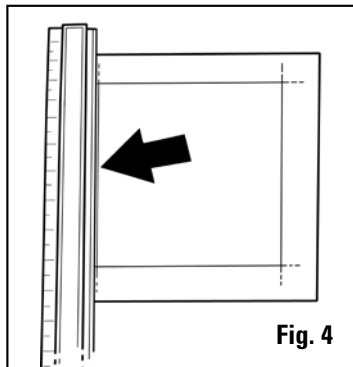
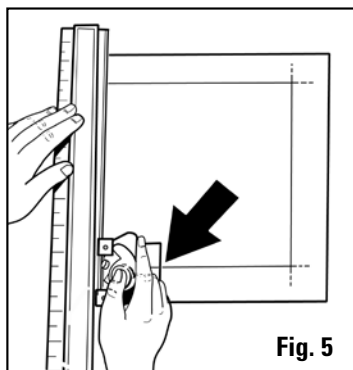

Fig. 4
Fig. 5
- Place the mat face down on the Slip Sheet. Place the Straight Edge EXACTLY on the left hand border so that the outside edge of the channel is lined up along the pencil line. **Fig.4.** Make sure that the bulk of the mat is to the right hand side of the Straight Edge. Having the mat on the left side of the Straight Edge will result in a reversed bevel cut. Attach the 302 Bevel Cutter to the straight edge by fitting the black nylon guides over the raised edge of the channel. Position the Mat Cutter so that the silver indicator line lines up with the bottom intersecting pencil line. **Fig.5**